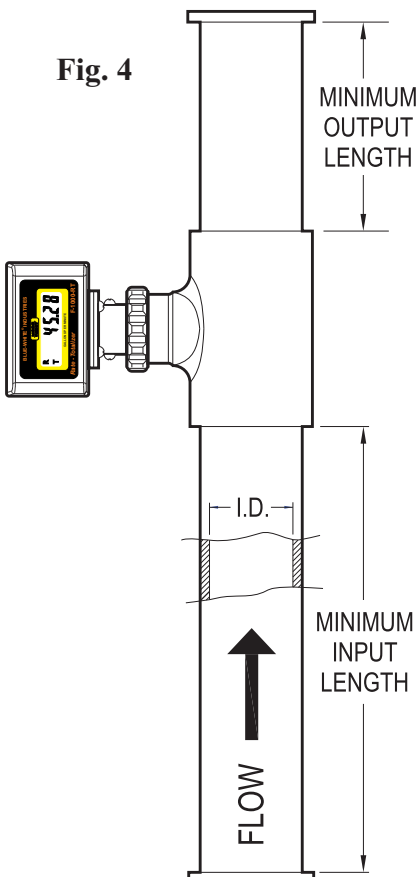

Fig. 4
- The F-1000 can be mounted on horizontal or vertical runs of pipe (see figure 4, 5 and 6). Mounting anywhere around the diameter of vertical pipe is acceptable, however, the pipe must be completely full of water at all times. Back pressure is essential on downward flows.
- The F-1000 can be mounted on horizontal or vertical runs of pipe. Mounting at the twelve o'clock position on horizontal pipe is recommended. Mounting anywhere around the diameter of vertical pipe is acceptable, however, the pipe must be completely full of water at all times. See figure 4, 5 and 6.
4.5 HOW TO INSTALL MOLDED PVC TEE FITTINGS (TE)